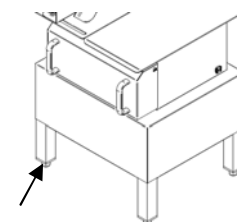

Fig.4.1.1
- Press this button to stop the motor that controls motion of the cutting blade. To restart the machine, turn the button head counter-clockwise until you hear a clicking sound. Engaging the button does not of itself allow the operator to restart the machine; the start button must be pressed (ref. 1 fig. 4.1.1).